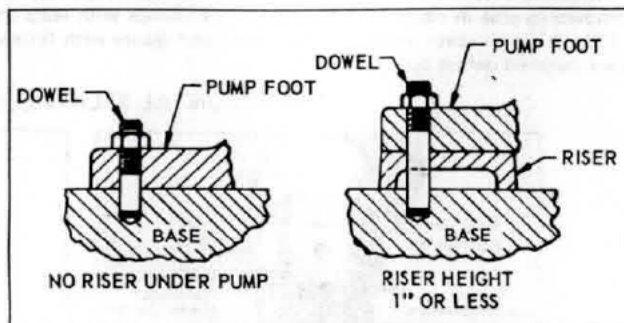

FIGURE 5. DOWELING METHODS
2-16. We recommend installation of straight dowel pins as shown in Figure 5 as follows:
- b. Through opposite pump feet, drill through the riser (if used) and into the base (when necessary), holes of the same diameter (1/64 inch less than dowel pin) as in the feet to the proper depth for the pins (see Figure 5). Clean out the chips.